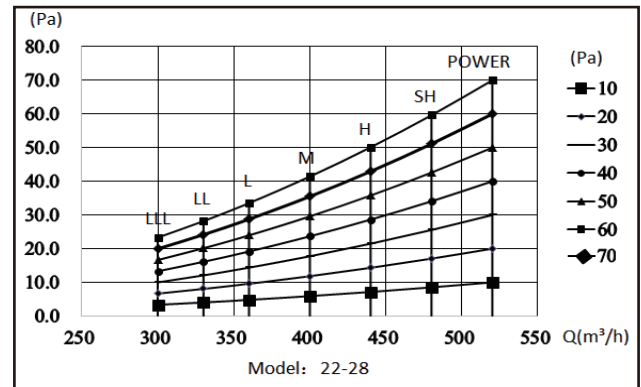
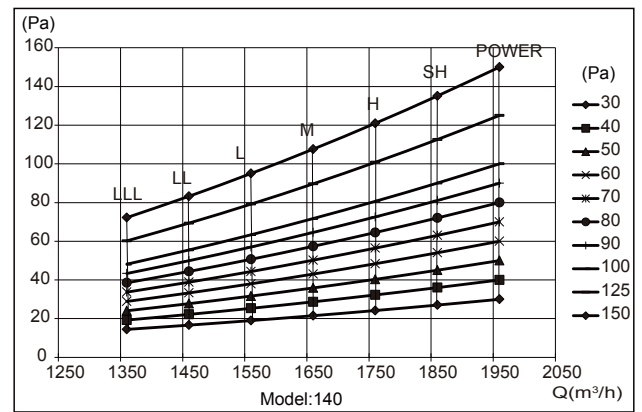

Figure 6.2
Figure 6.10
3. Before installing the air duct, ensure that the static pressure of the air duct is within the permitted range of the indoor unit (Refer to the IDU technical manual). Figure 6.2 to Figure 6.10 show the static pressure curve for indoor units.